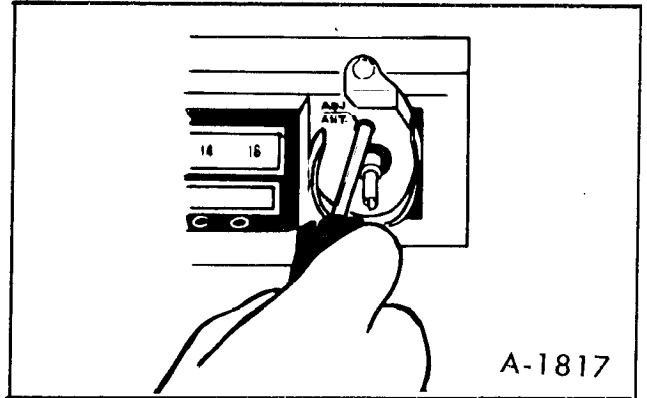

Figure 39—Antenna Trimmer Adjustment
3. Adjust antenna trimmer, located behind right control knob ring, for maximum volume. Access to antenna trimmer is gained by removing right control knob and ring and inserting screwdriver to adjust screw (figure 39).